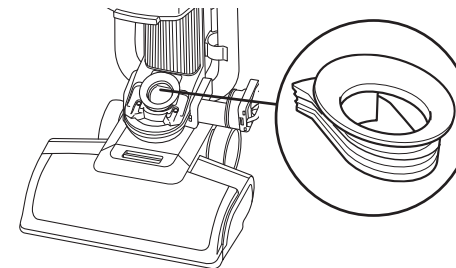

fig. 4
4. Be sure the rubber seal is seated in place under the dirty water tank (**fig. 4**).